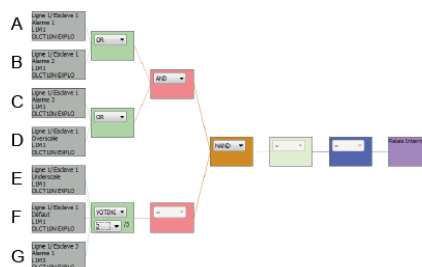

Figure 30: The logic blocks after programming
- *Normal*: a *Normal* relay can be reset only when the alarm event disappears. A trigger delay of between 0 and 60 seconds (Figure 30, D) can be set.